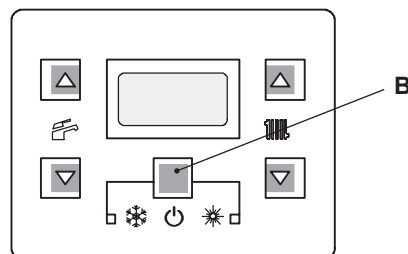

Figure 9.10
- 6 To memorize the setting press the key (B Figure 9.10).